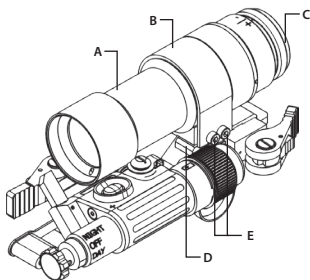

FIGURE 3-7. AIM-PRO ASSEMBLED WITH AN OPTIONAL 3X MAGNIFIER
The optional 3X Magnifier (A, Figure 3-7) is delivered fully-assembled with a dedicated mount (B), to be installed on the AIM-PRO.
1. Mount the 3X Magnifier (A) to the AIM-PRO using the rail (D). The mounting procedure is identical to that of mounting an NVM, as shown in Part 3.1.3.1. The position of the AIM-PRO collimator does not matter.
2. After mounting the AIM-PRO connected with the 3X Magnifier to a weapon, adjust the 3X Magnifier eyepiece using the diopter ring (C, Figure 3-7). Bring the 3X Magnifier image into sharp focus by rotating the eyepiece diopter ring. Directions of diopter adjustment are designated with (+/-) signs on the body of the 3X Magnifier. Adjustment range is covered in approximately 1 turn of the ring.